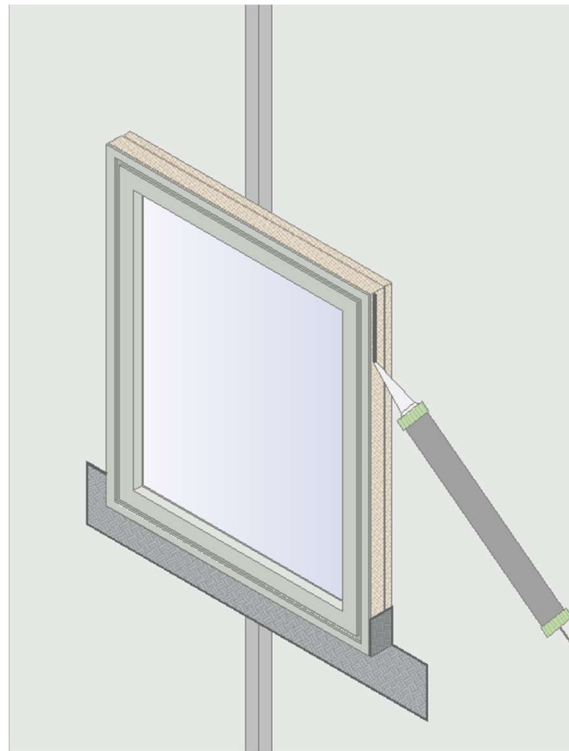

Figure 10
- Apply a 10 mm diameter bead of adhesive on to the frame (Figure 10).